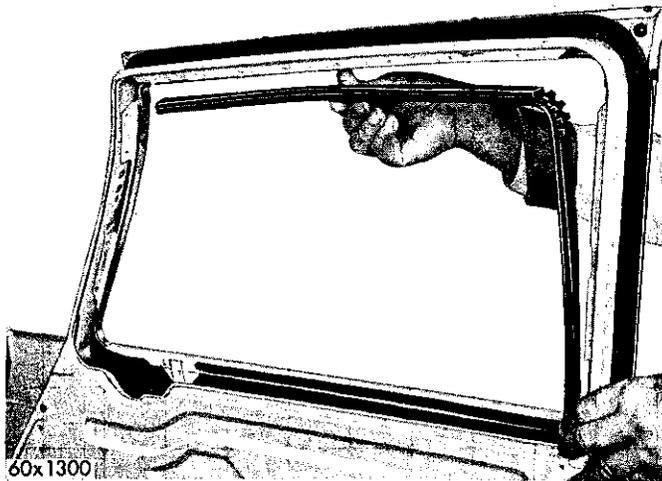

Fig. 71—Removing the Glass Run Channel (Chrysler)
(1) Remove the inside handles, arm rests (if so equipped), trim panel and weather shield.
(2) Run the window to the down position and pry the forward end of the run channel down and out of the door frame (Fig. 71).
(3) Disengage the lower end of the run channel and work it up and out of the door.
(4) Disengage the regulator arms from the glass lower channel.
(5) Raise the glass up and out of the door frame.